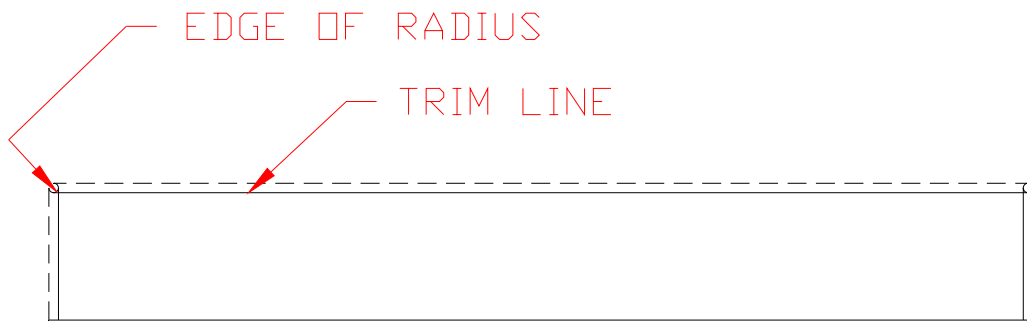

Figure 3.5.3
- 21) Trim the Elevator Trim Skin as in Figure 3.5.3.